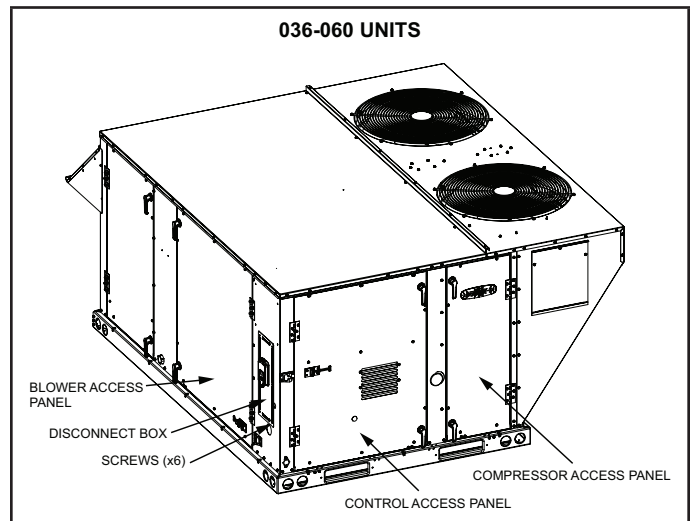
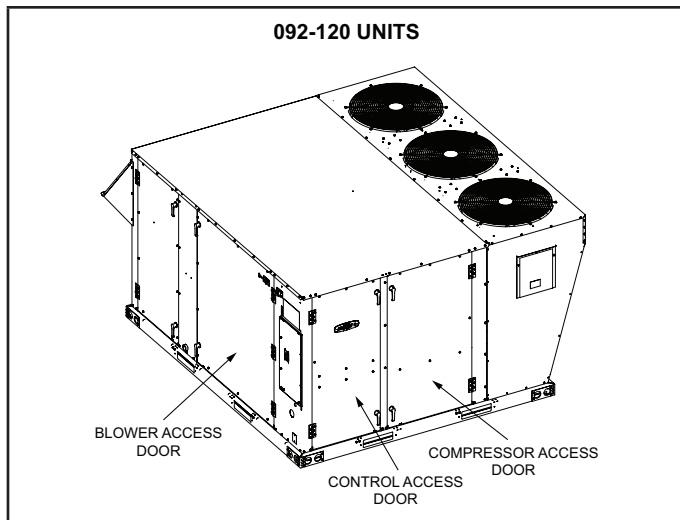
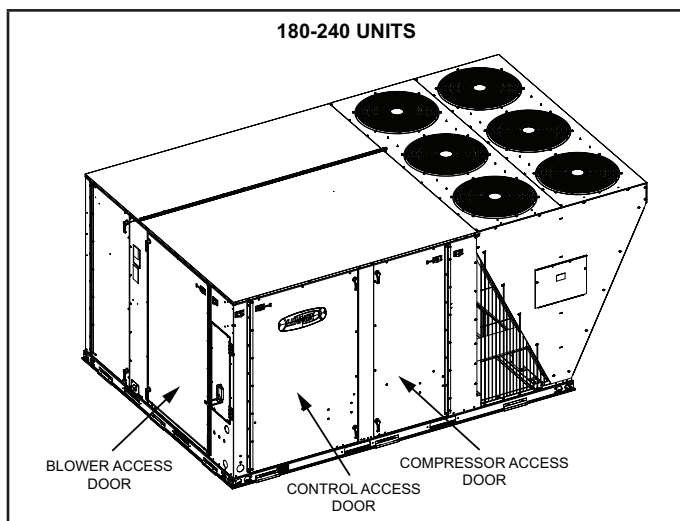

FIGURE 1
FIGURE 2
FIGURE 3
See FIGURE 1 for 036-060 units.
See FIGURE 2 for 092-120 units.
See FIGURE 3 for 180-240 units.
- 1 - Open the blower access panel. See FIGURE 1, FIGURE 2, & FIGURE 3.